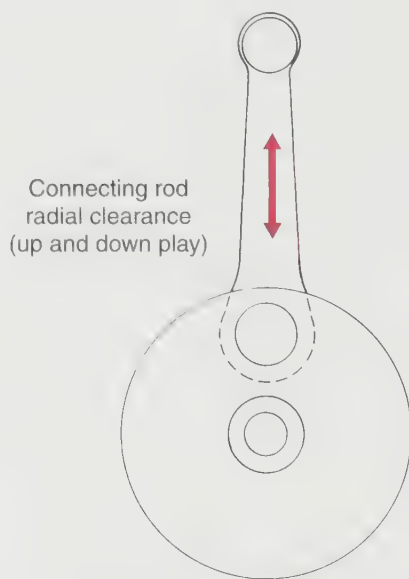

Figure 19-16. If radial clearance can be felt, the crankshaft is worn and must be rebuilt.
- Checking for rod bearing radial play, **Figure 19-16**.